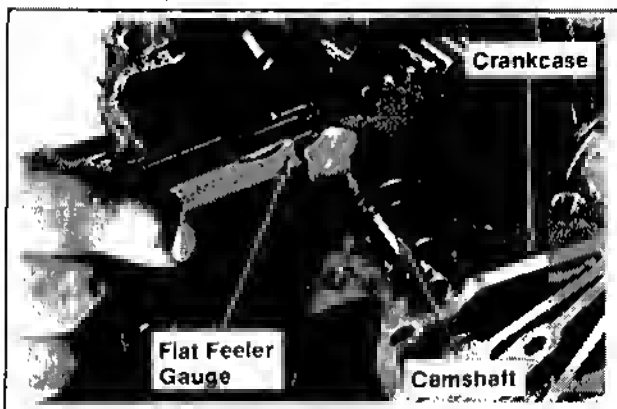

Figure 11-17. Measuring Camshaft End Play.
4. Measure the camshaft end play with a flat feeler gauge. The recommended camshaft end play is .003/.013". Refer to Figure 11-17.